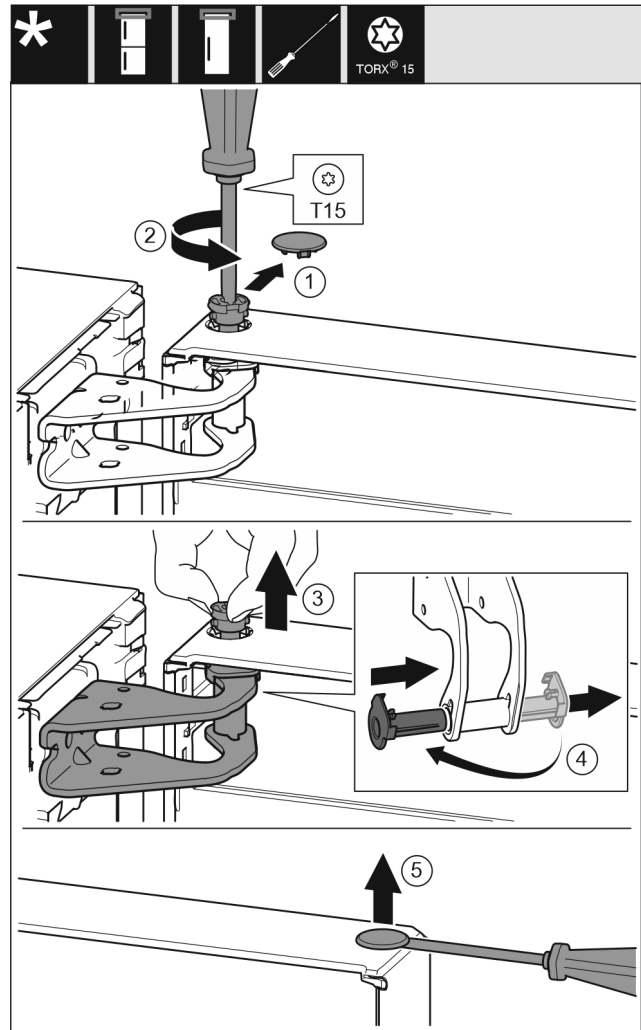

Fig. 13
- ▶ Carefully remove the protective cover. Fig. 13 (1)
- ▶ Loosen the bolts slightly with a T15 screwdriver. Fig. 13 (2)
- ▶ Hold the door and remove the bolts with your fingers. Fig. 13 (3)
- ▶ Pull the bearing bush out of the guide. Insert from the other side and latch into place. Fig. 13 (4)
- ▶ Carefully lift the plugs out of the door bearing bush with a slotted screwdriver and remove them. Fig. 13 (5)